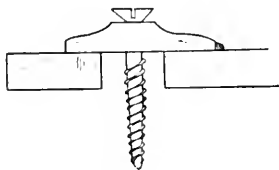

Fig. 13.
V. Take an ordinary "button," Fig. 13, such as is common on cupboards in country cottages to fasten the door. Saw out a piece of the panel, one or more inches square. Put the screw through the button and turn it over the panel and the little waste piece of wood. Two or more of these will hold the work perfectly fast.